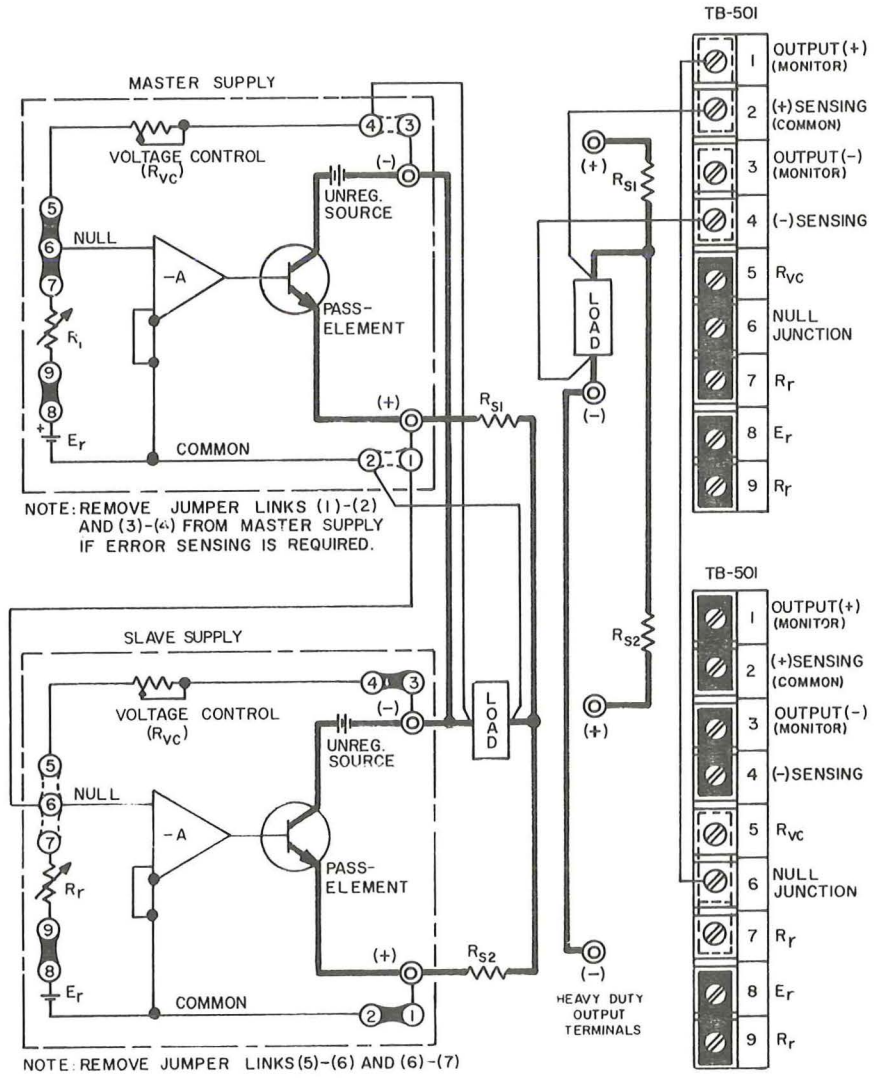

FIG. 3-14 MASTER SLAVE PARALLEL CONNECTION OF KEPKO POWER SUPPLIES
- 3-45 **MASTER/S�AVE PARALLEL CONNECTION.** Two power supplies are shown in FIG. 3-14, although more can be paralleled, each unit requiring its own sampling resistor. The sampling resistors (R_{s1}, R_{s2} in FIG. 3-14) are of equal value and are selected such that the voltage drop across them (due to the output current), plus the voltage drop in the load connection leads does never exceed 0.5 volts. If the voltage drop across the load connecting leads alone is at least 0.1 volt, the sensing resistors can be deleted since the leads provide the necessary sample voltage. For equal current sharing, however, the lead *length* and *diameter* should be the same for both power supplies. Output control is exercised from the "Master" supply.
- 3-46 **PROCEDURE FOR "MASTER/S�AVE" PARALLEL OPERATION** (See FIG. 3-14)
- 2) Make all load and sensing connections as shown in FIG. 3-14. The error sensing connections may be deleted if the minor voltage drop across the load wires (which subtracts from the available compliance voltage) can be tolerated.